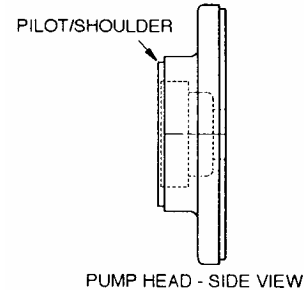

Figure 1
1. Remove the bearing cover (27) and gasket (26) from the **inboard** end of the pump. Discard the gasket.
2. Inspect the pump head to verify it is machined with the necessary pilot/shoulder for adapter alignment, as shown in Figure 1. NOTE: The head must be replaced if it is not machined with a pilot/shoulder—consult factory.